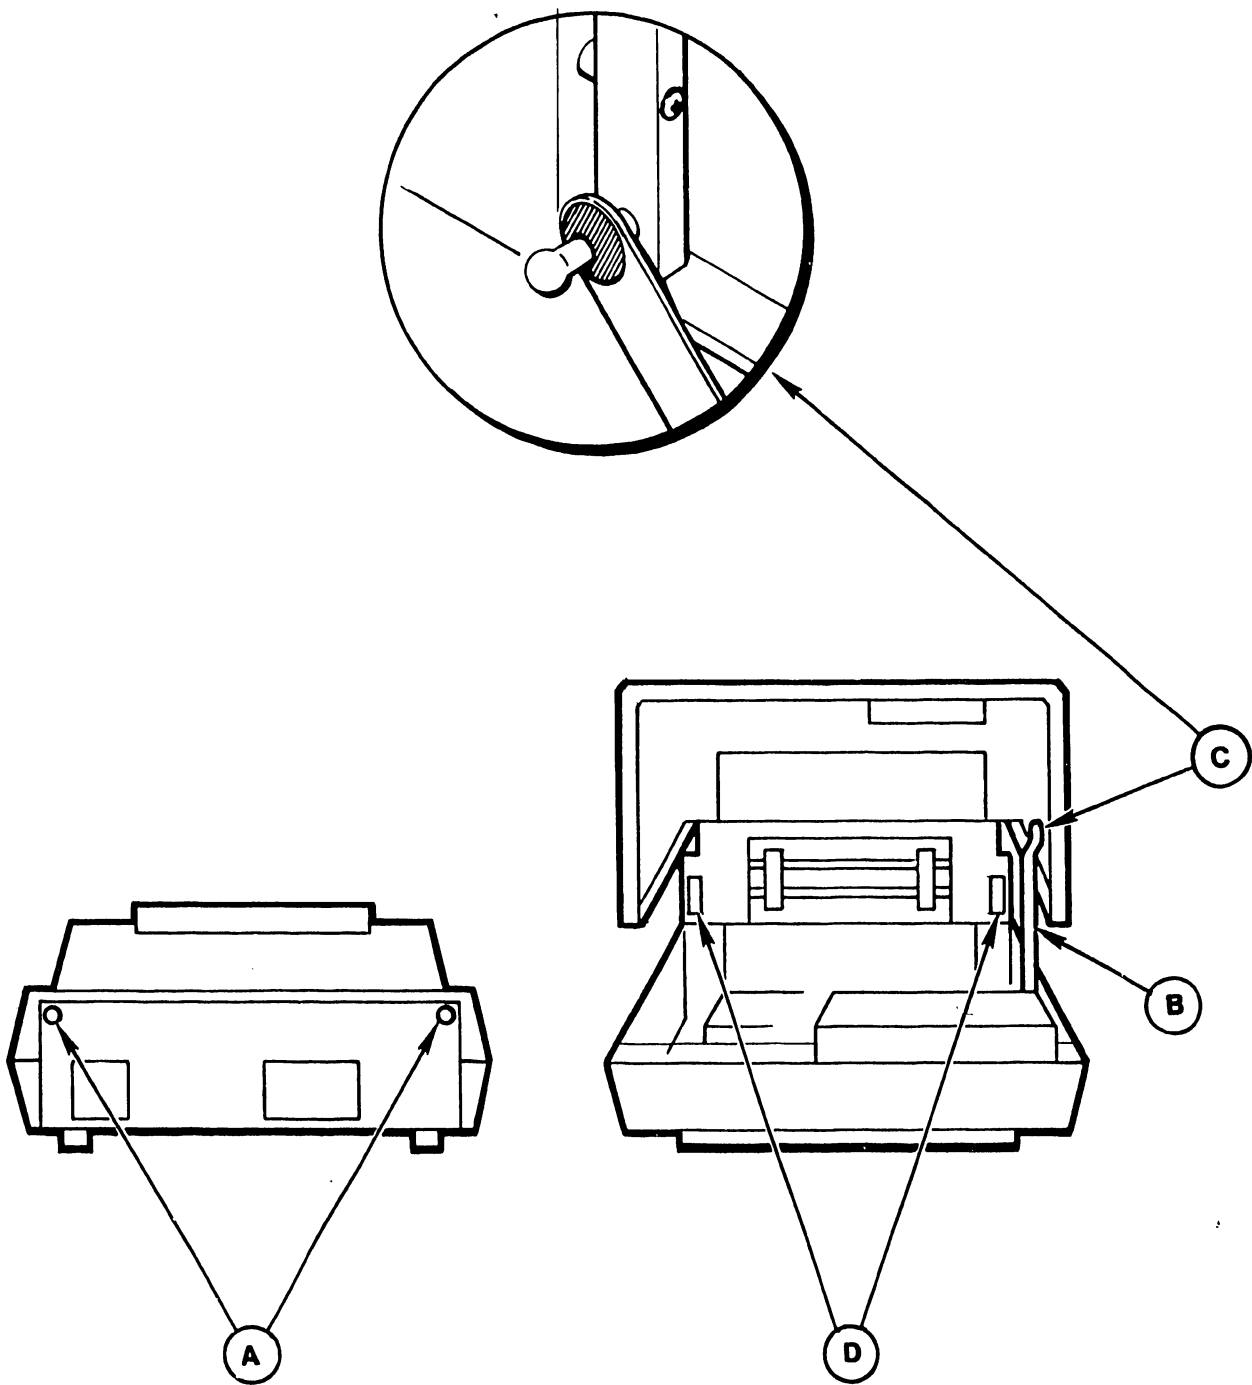

Figure 4-2 Top Cover Removal
1. Loosen the two captive thumbscrews located on the rear panel of the printer. See (Figure 4-2), item (A) for screw location.
2. Open the front top cover of the printer to the latched position. Pull the middle of the hinged cover support bar Figure 4-2, item (B) forward until the bar locks into position.
3. Disengage the top end of the cover support bar by gently pulling the bar sideways off the ball head retaining pin. If the rubber grommet becomes detached, reinstall it in the bar Figure 4-2, item (C).
4. Release the top cover by pulling forward on the top edge of the plastic tabs located on the right and left sides of the printer Figure 4-2, item (D). Carefully lift the cover from the printer.